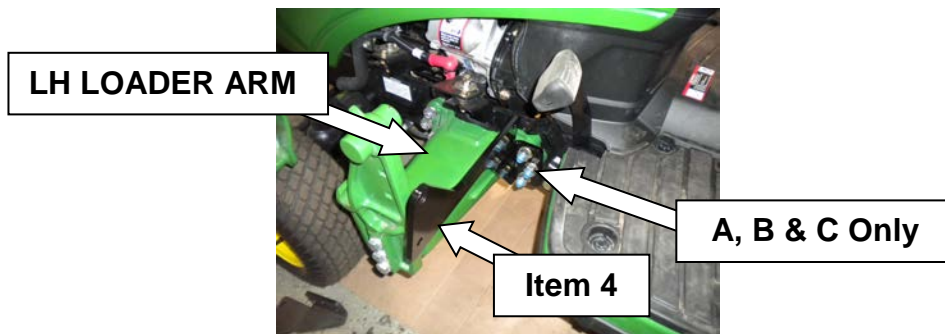

Figure 4
- (3) Non-Loader spacers (M)
9. Remove the (3) rear mounting bolts from the LH loader tower.
10. Secure front LH mount bracket (3) to the tractor's LH side of frame and rear loader mount location using **(Figure 4)**;